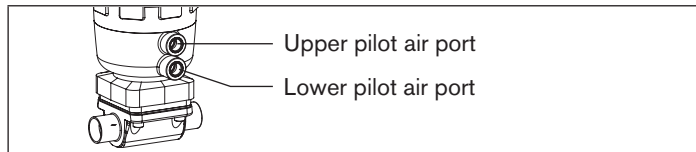

Fig. 17: Pneumatic connection
→ Connect the control medium to the lower pilot air port of the actuator (see “Fig. 17: Pneumatic connection”)
→ Connect the control medium to the upper pilot air port of the actuator (see “Fig. 17: Pneumatic connection”)
For reducing the exhaust air noise: plug the silencer into the free air discharge connection (see “Fig. 17: Pneumatic connection”)
4) see "Fig. 17: Pneumatic connection"